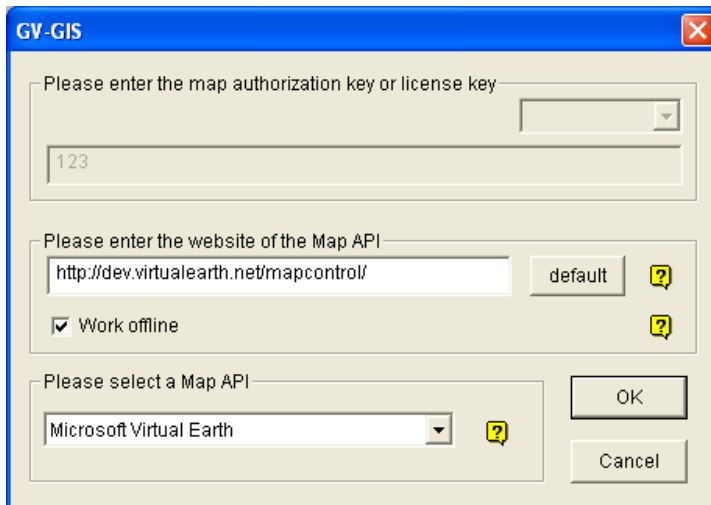

Figure 4-54
1. If you like to use the maps created yourself, overwrite the files at :GV folder\GIShtm-User, and select **User Defined** from the “Please Select a Map API” drop-down list (Figure 4-54).